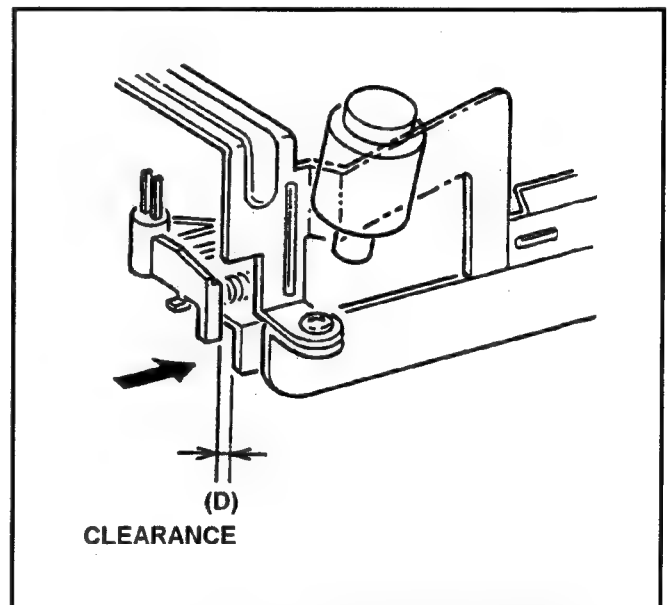

Fig. 8-13-3 Cleaner Solenoid Position Adjustment
1. Observe the **clearance (A)** between Cleaner Roller and Cylinder Unit as shown in Figure 8-13-3. And make sure that it is within 1.0 to 1.2mm.
2. If not, loosen the **2 screws (B)** and adjust the position of Cleaner Base Plate by moving to arrow direction ($A \rightleftharpoons A$) with the Eccentric Driver so that the **clearance (A)** is within specification. And tighten the **2 screws (B)**.